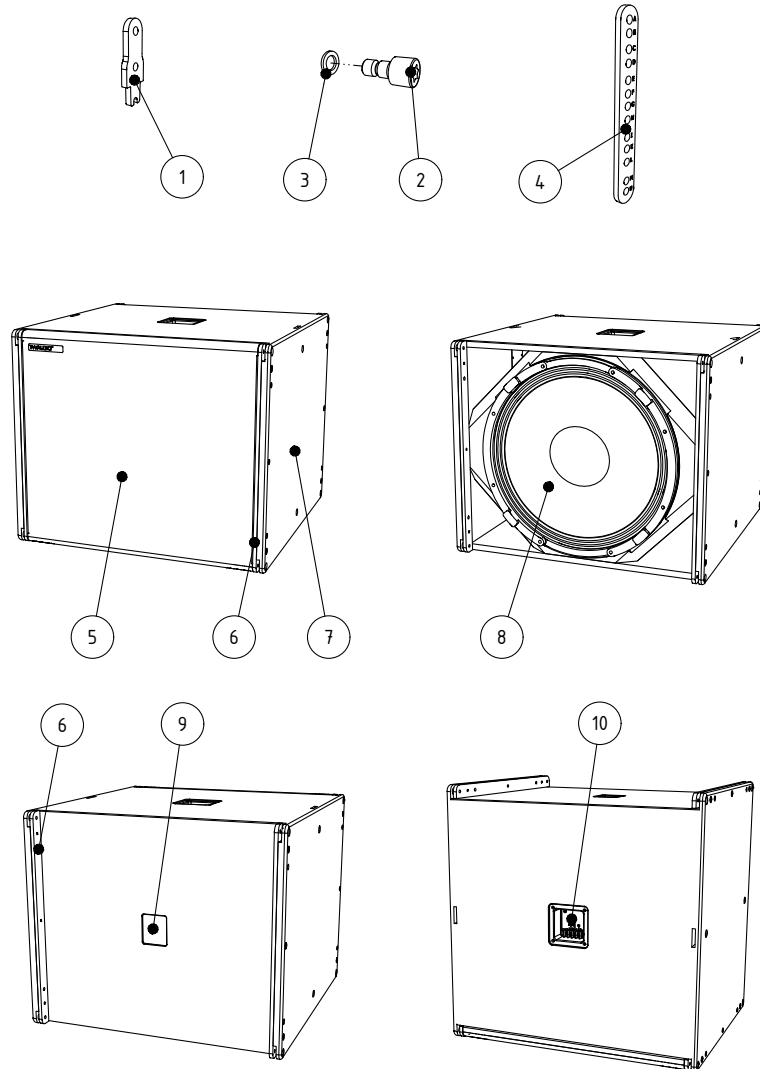

Figure 2.1 - Overview
In order to connect the VERAS17i loudspeakers mechanically with each other, the dedicated rigging tracks, links and brackets have to be used (figure 2.1 - pos.1 to pos.4).